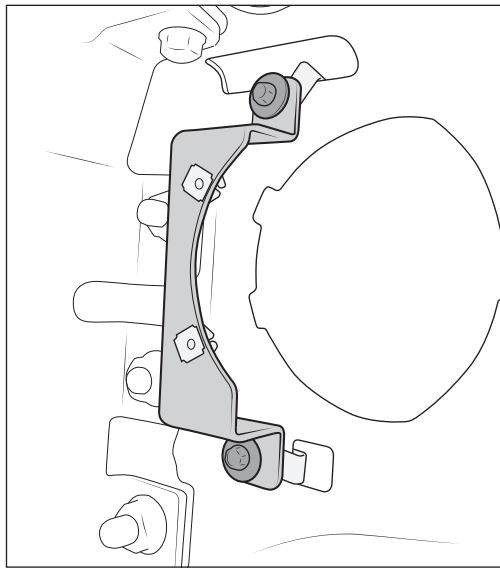

Figure 34
- C. Bolt brackets to the fairlead U-nuts using provided M4.2x25 screws to 16 in-lb. Round cutout in bracket should face foglight opening (fig. 34).